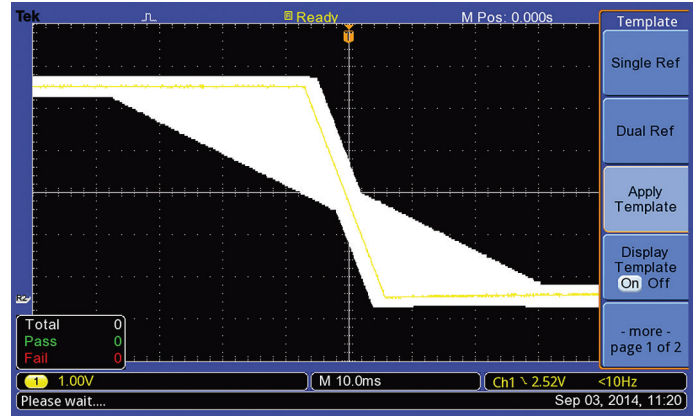

Figure 7. Apply the template.
8. Now you can add vertical and horizontal tolerance to the area defined by the two boundary lines. On the oscilloscope, press Back. Press “More”, then select “V limit”. Rotate the “Multipurpose” knob to set the vertical tolerance to 200mdiv; select “H limit” and then rotate the “Multipurpose” knob to set the horizontal tolerance to 200mdiv. Select “More” and then press Apply Template to build the template based on the two reference lines and the specified vertical and horizontal tolerances (see Figure 7).